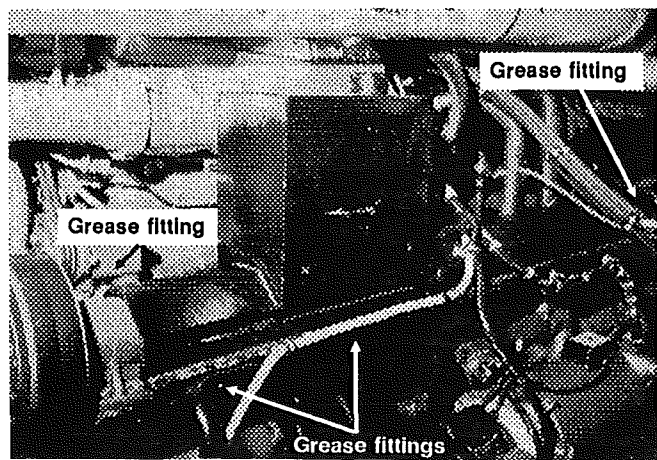

FIG. 22
The fan transfer shaft assembly is provided with four (4) grease fittings (see fig. 22). Grease should be added monthly or at every 10,000 miles (16 000 km). To perform maintenance, proceed as follows: